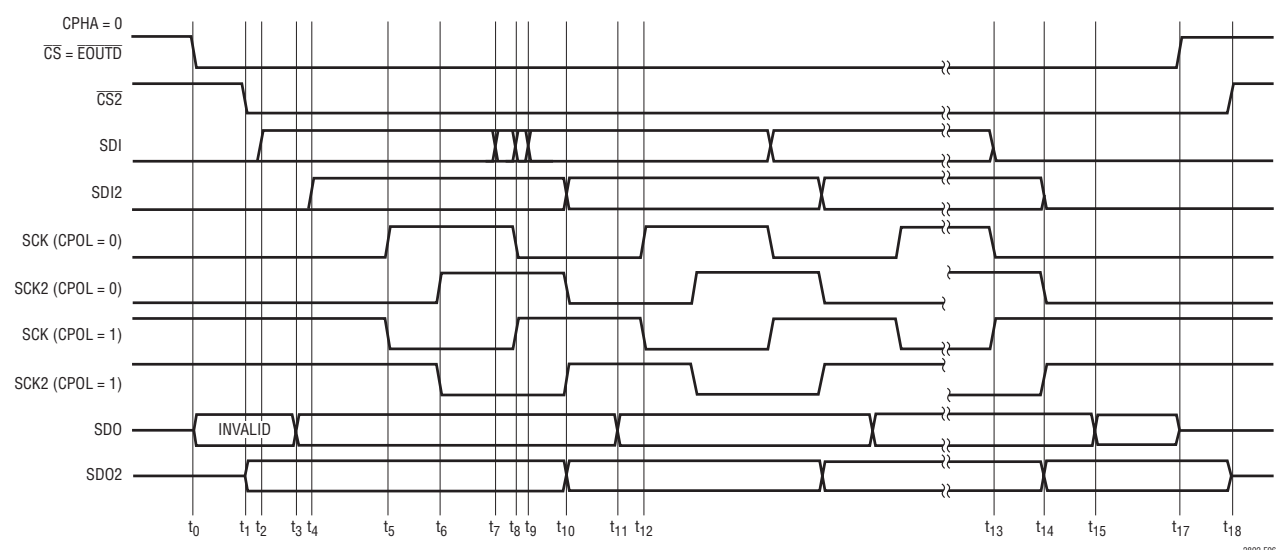
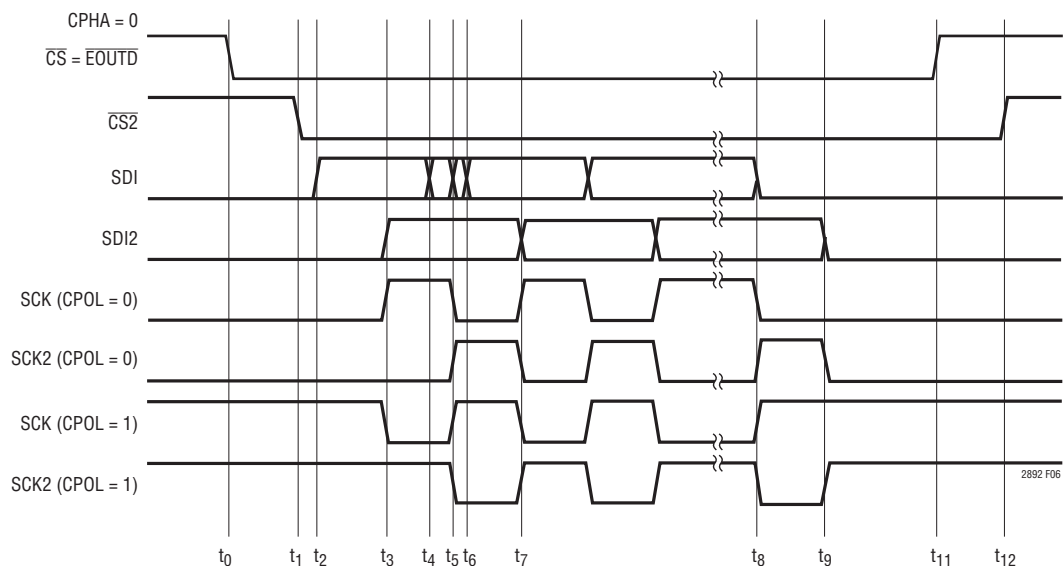

Figure 6. SPI Timing, Bidirectional, CPHA = 0
Figure 8. SPI Timing, Unidirectional, CPHA=0
The LTM2892-S provides an SPI compatible isolated interface. The maximum data rate is a function of the inherent channel propagation delays, channel to channel pulse width uncertainty, and data direction requirements. Channel timing is detailed in Figures 6 through 9 and Tables 2 and 3. The SPI protocol supports four unique timing configurations defined by the clock polarity (CPOL) and clock phase (CPHA) summarized in Table 1.
The maximum data rate for bidirectional communication is 4MHz, based on a synchronous system, as detailed in the timing waveforms. Slightly higher data rates may be achieved by skewing the clock duty cycle and minimizing the SDO to SCK setup time, however the clock rate is still dominated by the system propagation delays. A discussion of the critical timing paths relative to Figures 6 and 7 follows. For SPI communication INA = SCK, INB = SDI, INC
Maximum data rate for single direction communication, master to slave, is 8MHz, limited by the systems encoding/decoding scheme or propagation delay. Timing details for both variations of clock phase are shown in Figures 8 and 9 and Table 3.
- SDI and SCK setup data transition occur within the same data packet. Referencing Figure 6, SDI can precede SCK by up to 13ns ( $t_7 \rightarrow t_8$ ) or lag SCK by 3ns ( $t_8 \rightarrow t_9$ ) and not violate this requirement. Similarly in Figure 8, SDI can precede SCK by up to 13ns ( $t_4 \rightarrow t_5$ ) or lag SCK by 3ns ( $t_5 \rightarrow t_6$ ).